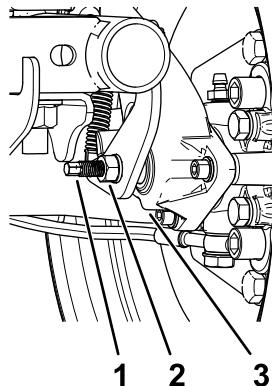

Figure 53
3. Using 2 wrenches, hold the adjusting post on the caliper in place with 1 wrench, and loosen the jam nut 1/4 turn with the other wrench (Figure 53).
4. While holding the adjusting post and the jam nut in place, turn the adjusting post in to tighten (Figure 53).
5. While holding the adjusting post and the jam nut in place, back off 1/4 turn (Figure 53).
6. While holding the adjusting post and the jam nut in place, tighten the jam nut (Figure 53).